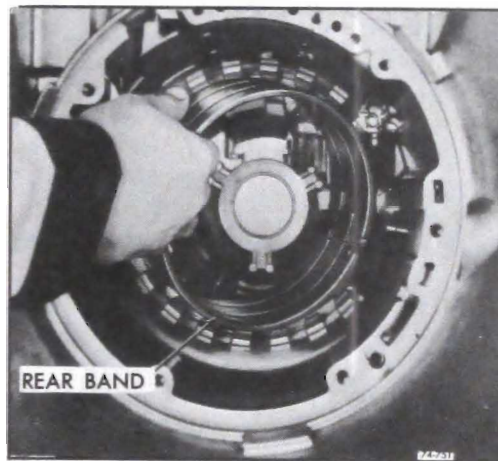

Figure 76-751
7. Install the rear band assembly so that the two lugs index with the two anchor pins. See Figure 76-751. Check band to be sure band ends are seated on lugs.